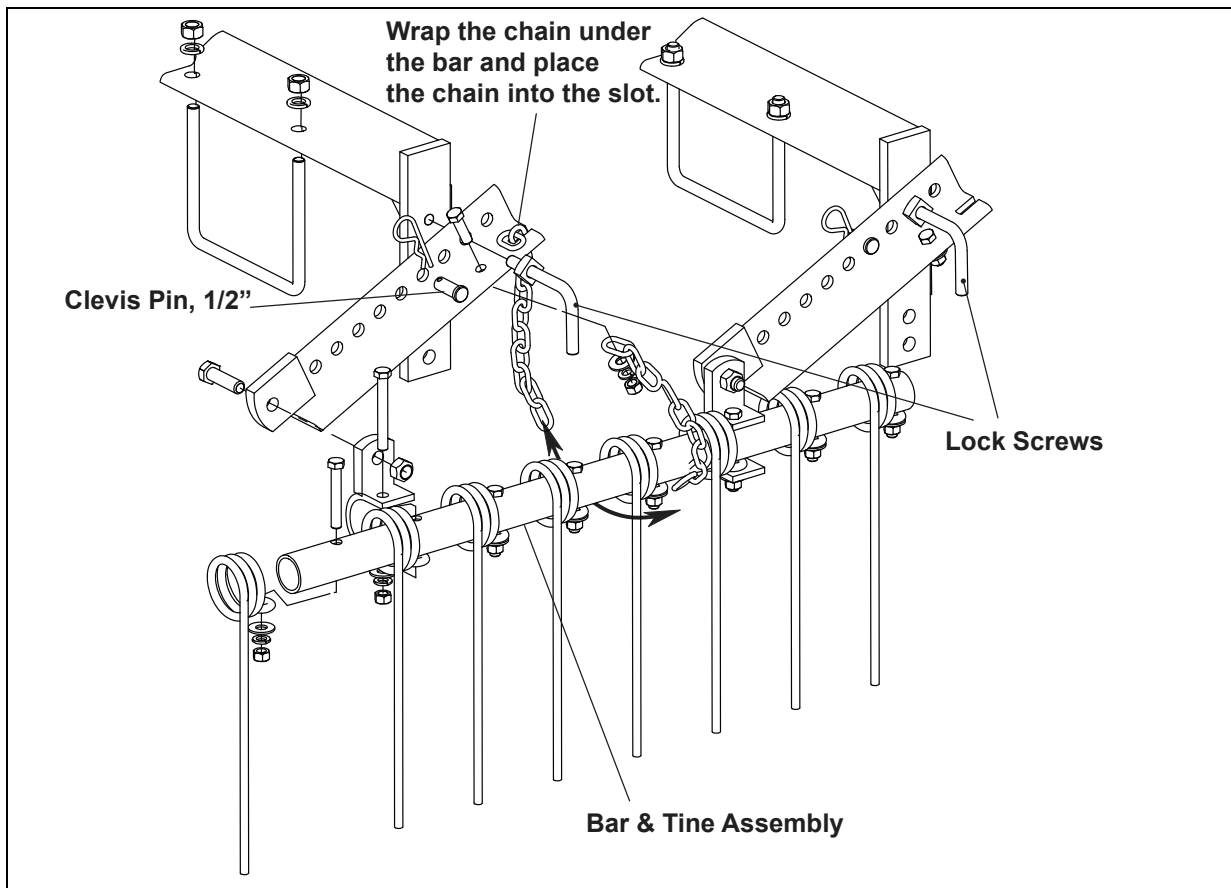

Figure 2-27: Coil Tine Setup
(Cannot be used with Coil Tine track Remover Kit) See Figure 2-27.
2. Clamp the brackets loosely to the seeder frame with u-bolts, lockwashers, and nuts. Attach the adjusting angles to frame brackets with lockscrews. Secure the adjusting angle from swinging with a 1/2" clevis pin and hair pin cotter. Fasten the bar and tine assemblies to the adjusting angles with 1/2" x 1-3/4" capscrews and locknuts. Tighten the locknuts to allow free side to side swinging. Center the entire wheel track leveler behind the tractor tires. Tighten the u-bolts against the seeder frame. See Figure 2-27.